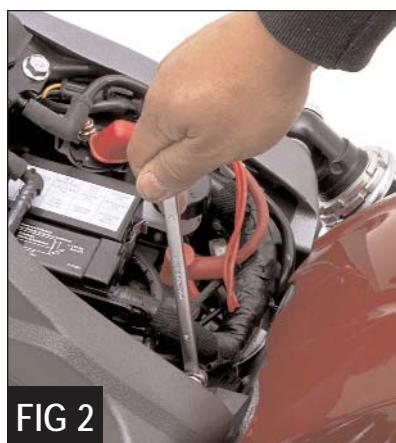

FIG 2
3. Using a 10mm combination wrench, disconnect the battery negative terminal (*Figure 2*).